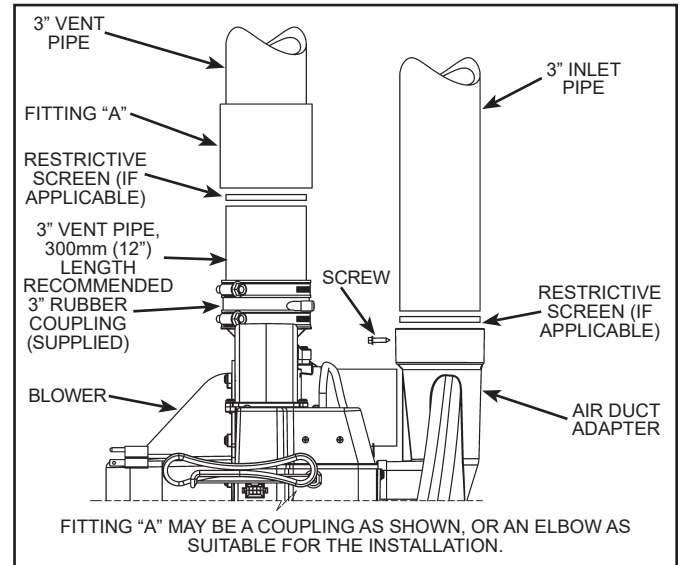

Figure 39.
1. The vent piping connects into the rubber coupling located on the top of the blower assembly. This coupling includes gear clamps to connect the venting to the blower. See Figure 39.
Figure 39 shows heaters having 3" direct connection to the blower.